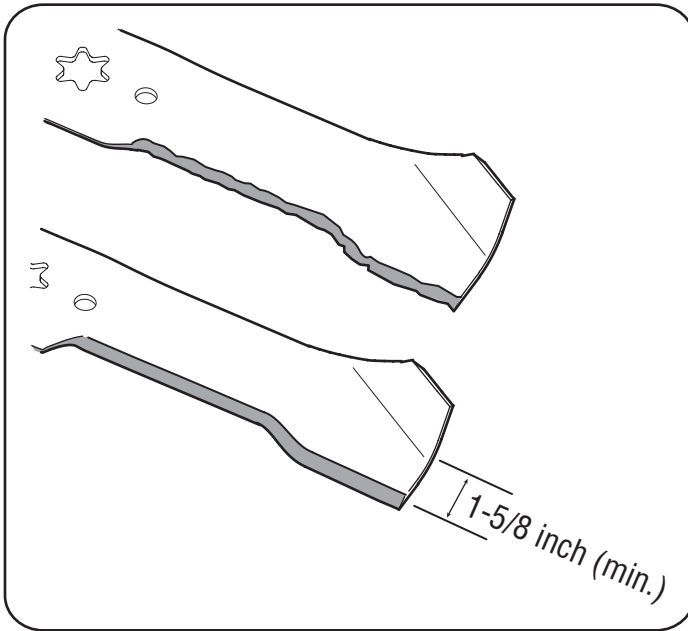

Figure 16
**IMPORTANT:** If the cutting edge of the blade has already been sharpened to within 1-5/8" from the edge, or if any metal separation is present, replace the blades with new ones. See Figure 16.